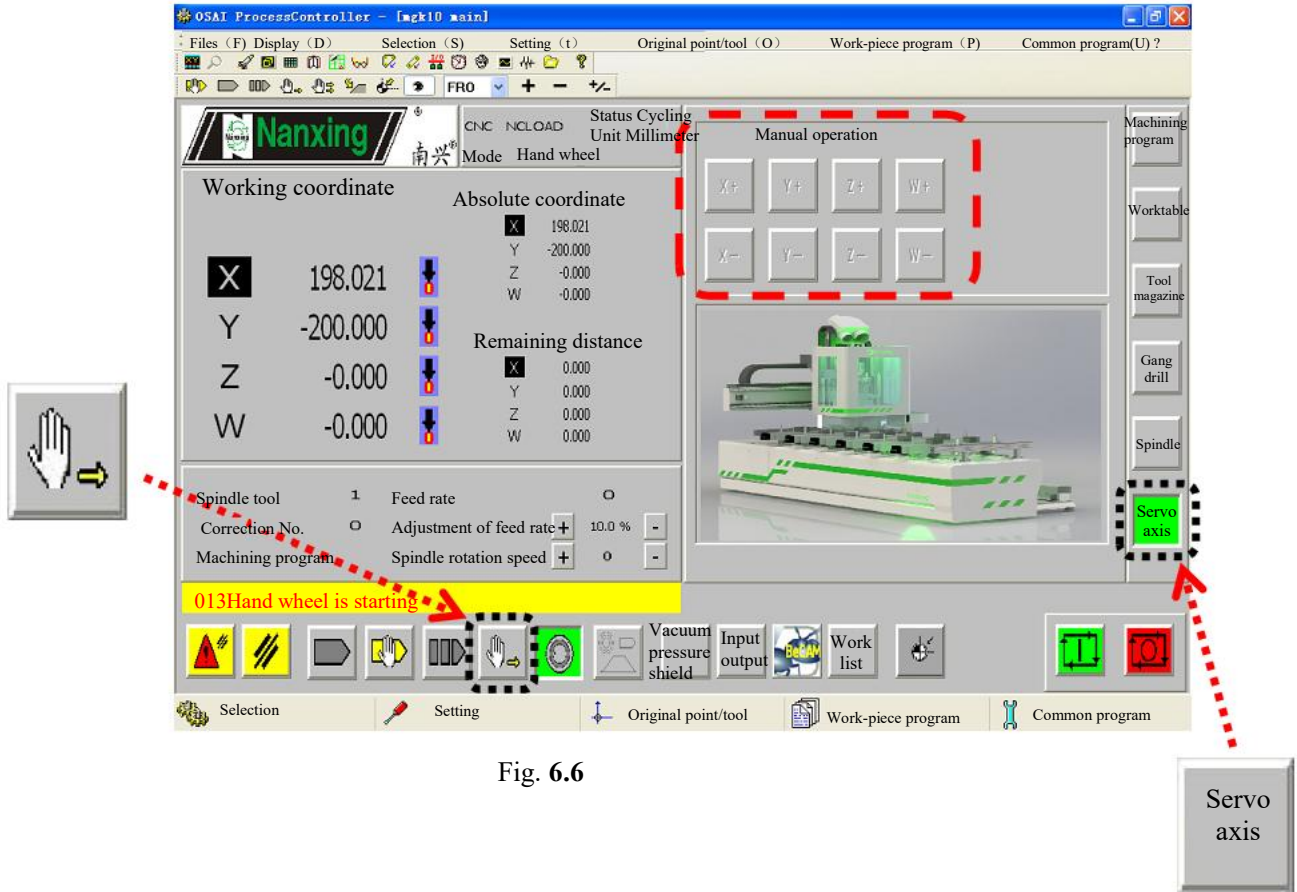

Fig. 6.6
1. Click , as shown in Fig.6.6.
2. Click , as shown in Fig.6.6
3. Move the machinery worktable by pressing the machinery worktable movement direction control keys of 『 X+, X-, Y+, Y-, W+, W- 』 , as shown in Fig.6.6.